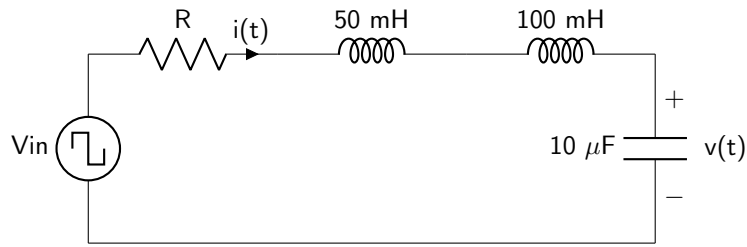

Figure 10.5: RLC circuit diagram.
5. Calculate the necessary resistance value for the series RLC circuit shown in figure 10.5 to obtain a critically damped output. Assume that each inductor has $50\ \Omega$ of parasitic resistance.